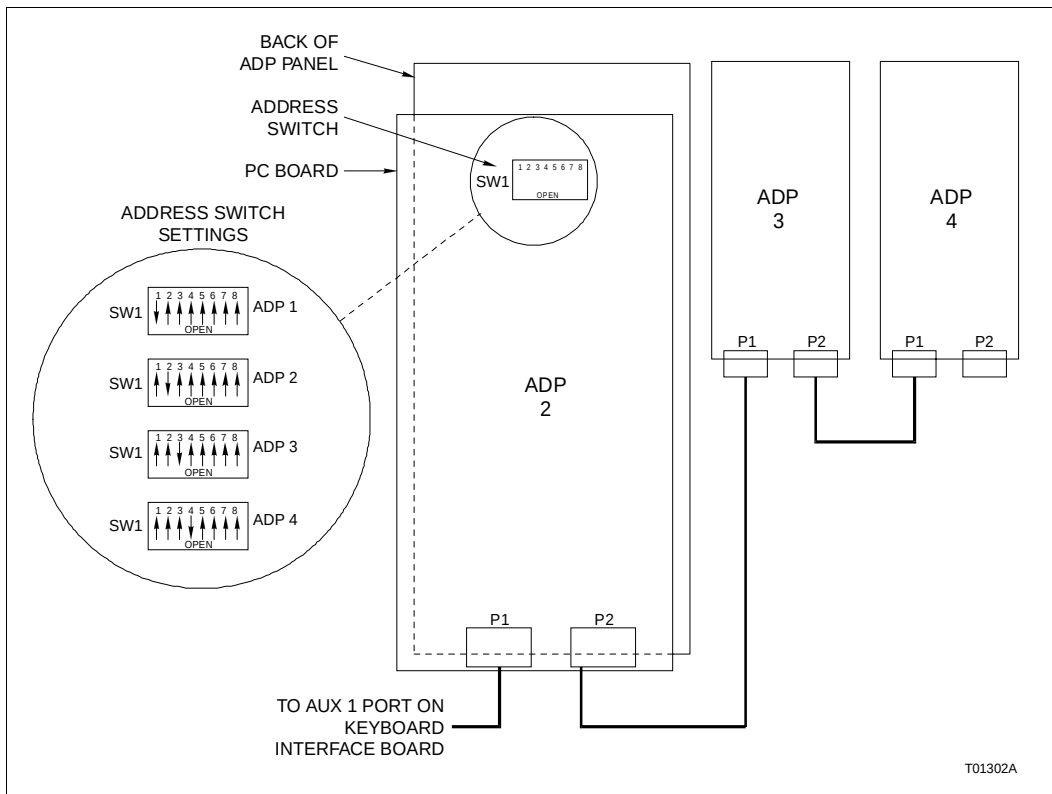

Figure PR9-5. IIADP01 Installation
- ☐ 6. Refer to Figure PR9-5 and connect additional ADP panels as shown, using additional ADP cables to do so.